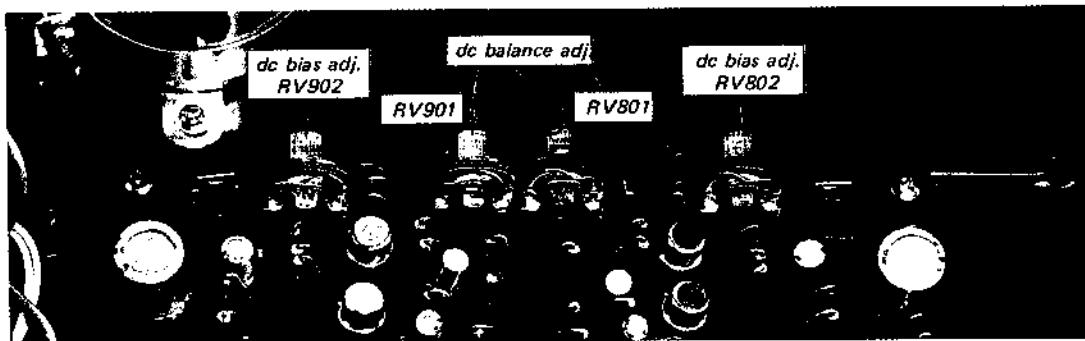

Fig. 3-17 Parts location
1. Apply a drop of cement solvent to the semi-fixed resistors on the power amplifier board, and then set the semifixed resistors (see Fig. 3-17) on the power amplifier board as follows: